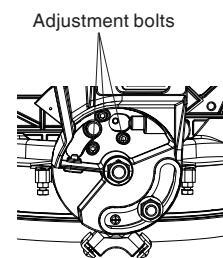

Fig. 15-c
9. 90° Indicator (For bevel scale) adjustment (Fig. 15-b)